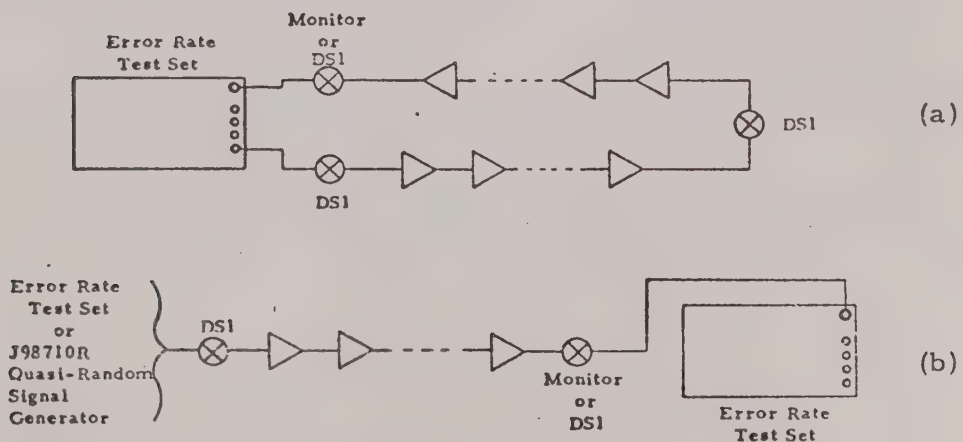

Figure 3-1: Loopback and End-to-End Applications
- 3.2.1 The Error Rate Test Set may be used to test any T1 line using either its bipolar violations (BPV) or logical errors detection schemes. The only constraint on the choice of detection is that logical errors detection requires the use of the standard test sequence whereas bipolar violations detection may be applied to any signal. An example of the latter type of detection, using message/data as the signal, would be the in-service monitoring of a circuit without the necessity of removing it from service. Figures 3-1 (a) and (b) depict typical applications of the Error Rate Test Set for checking T1 lines in both loopback and end-to-end configurations.